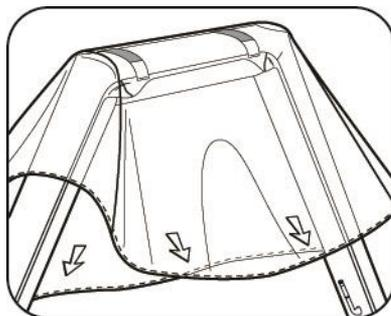

FIGURE 12
5. Pull orange canopy fabric down over yellow arch tube (See Figure 12).